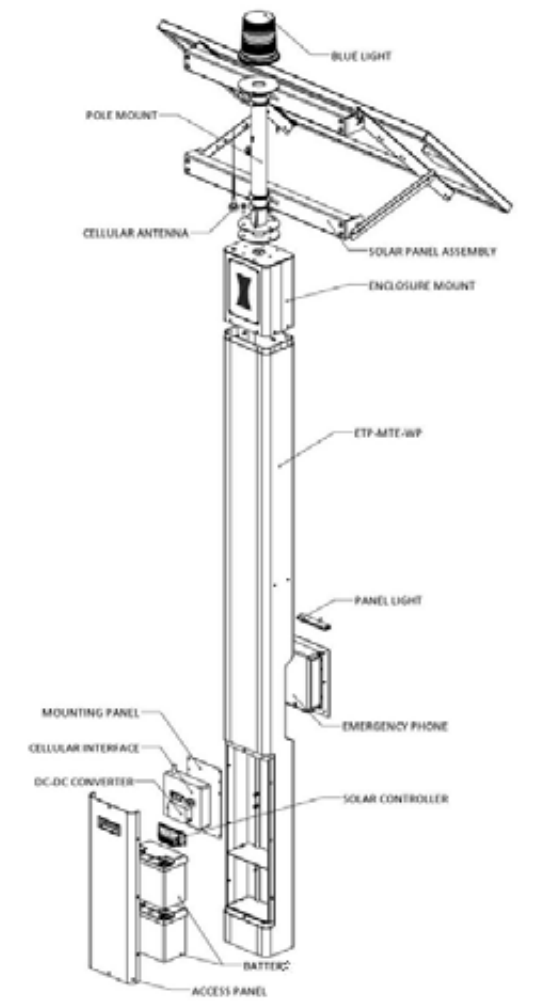
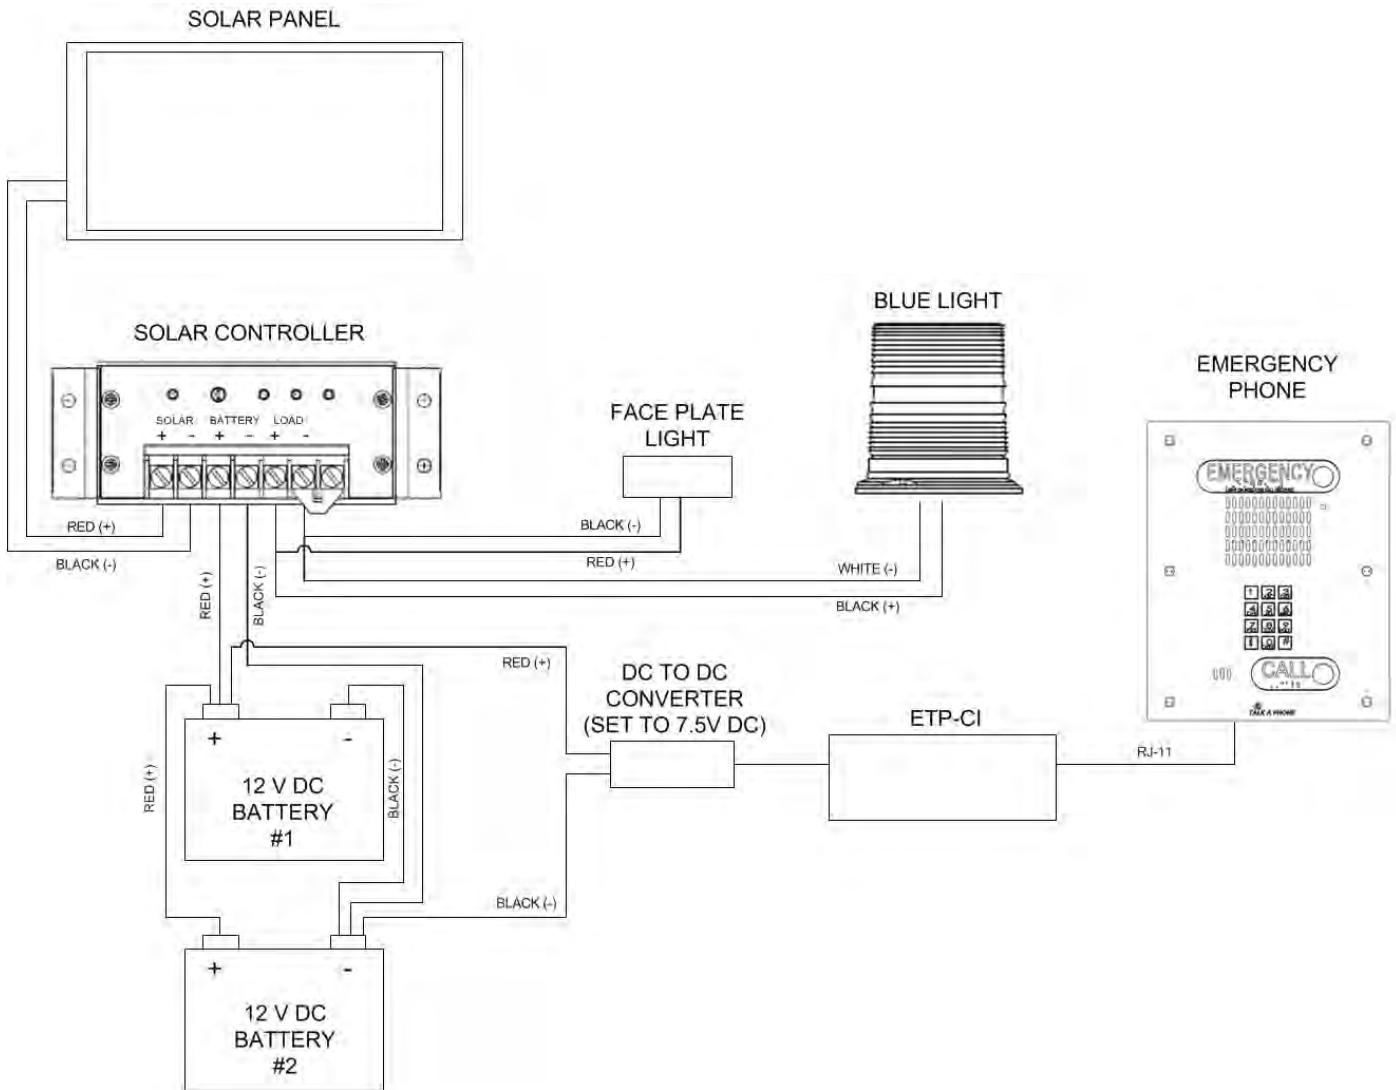

Figure 25. Exploded view of **ETP-MTE-WP** configuration
Figure 28. Solar system wiring schematic
3. For **ETP-MTE-WP** (Refer to **Figure 25**),
2. Connect the power cable from the solar panel to the “SOLAR” terminals on the solar controller. **Do not discard excess wire.** Refer to the wiring diagram as shown in **Figure 28**.
3. Connect the batteries in parallel to the “BATTERY” terminals on the solar controller using the excess power cable. Crimp-on connectors are included for the batteries. Ensure that the shunt on the solar controller is installed correctly for the battery type. Refer to the wiring diagram as shown in **Figure 28**.
6. Install the shelves and batteries in the tower’s rear lower compartment as shown in **Figures 25 & 26**. Make all remaining connections, including connecting the batteries in parallel with the provided connector cable. *Refer to **Figure 28***